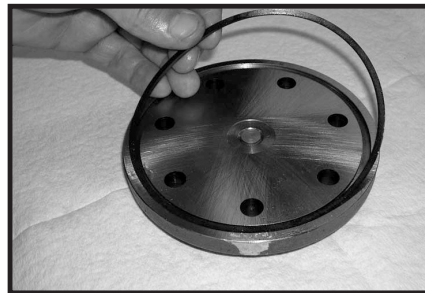

Figure 54
19. Assemble a **new** seal ring (4) into end cover (2) and assemble end cover onto the commutator set. SEE FIGURES 54 and 55.